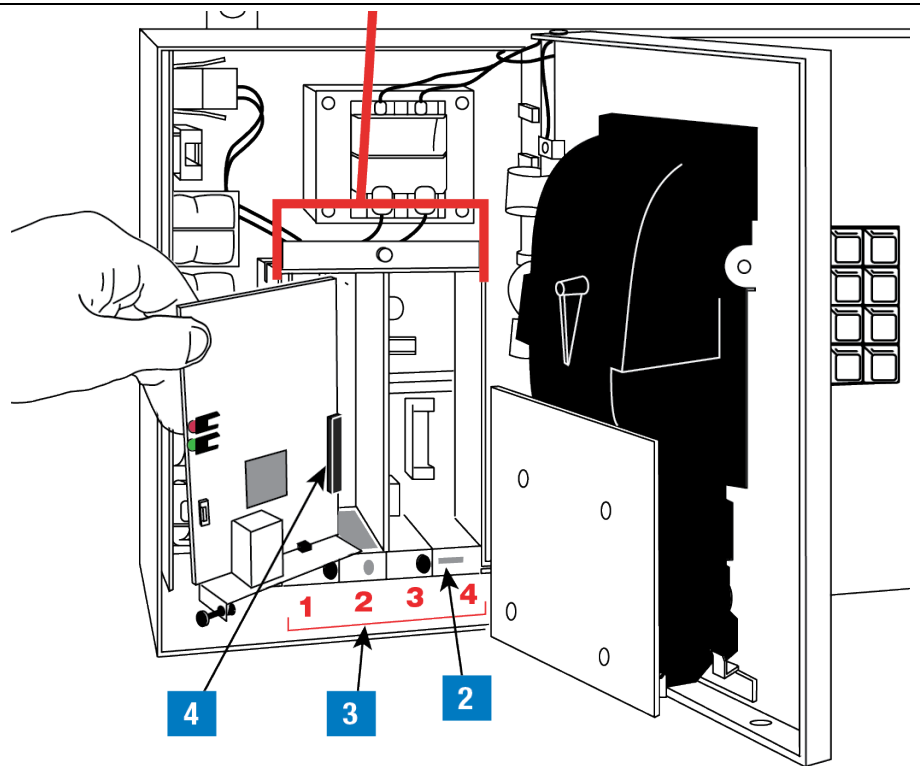

Figure 5. TLS-350/ProMax Series TCP/IP module installation
If your console has a snap connector which secures the cover plate in the card cage, pull it out and lift out the cover plate. If your console has "knockout" cover plates, open the printer door and insert a flat blade screw driver in the slot provided in the front of the cover plate you are removing and twist it to break the front set of metal securing tabs (ref item 2 in Figure 5). Once the front tabs are broken, carefully move the loosened end of the plate up and down until the rear set of securing tabs break. Remove and discard the cover plate. Slide the module into the open slot until the motherboard connector is snugly seated. Do not apply excessive force when installing the module. With your thumb, push in the black retaining fastener on the end plate until it snaps into the hole in the card cage.
Legend for numbered boxes in Figure 5